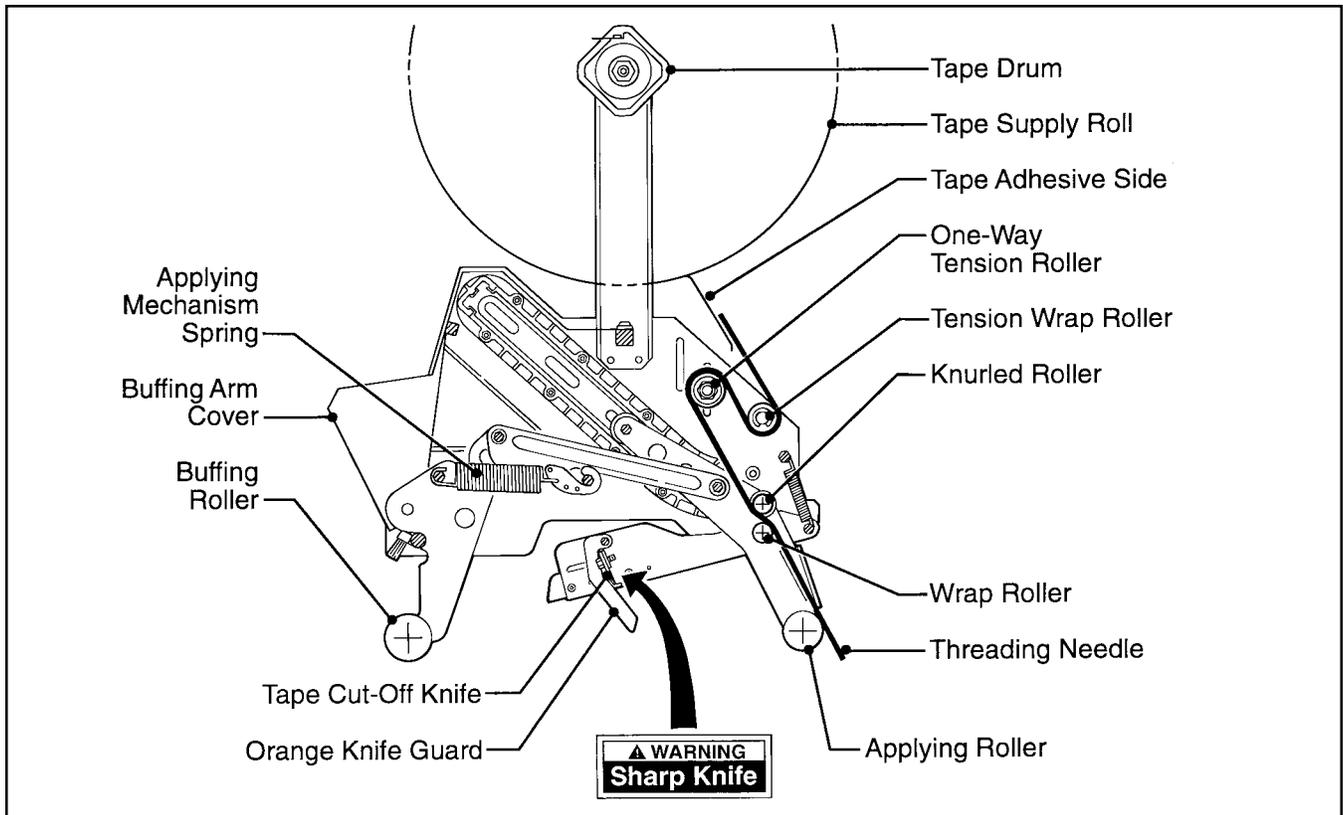

Figure 3-1 – Taping Head Components/Threading Diagram, Upper Head (Left Side View)
Before working with the taping heads or loading/threading tape, refer to Figures 3-1 and 3-2 (page 6) to identify the knife location. **Keep hands out of these areas except as necessary to service the taping heads or to load/thread tape.**
**WARNING – Taping Heads are equipped with an extremely sharp tape cut-off knife. The knife is located under the orange knife guard which has the "Warning – Sharp Knife" label. Before working with the taping heads or loading tape, refer to Figures 3-1 and 3-2 on page 6 and identify the knife location. Keep hands out of these areas except as necessary to service the taping heads.**
3. Taping heads are equipped with an extremely sharp cut-off knife. Before working with the taping heads or attempting to load/thread tape, refer to Figures 3-1 and 3-2 and identify the knife location. Keep hands out of these areas except as necessary to service the taping heads.
The applying mechanism spring, shown in Figures 3-1 and 3-2, controls applying and buffing roller pressure on the box and returns the mechanism to the reset position. The spring pressure is pre-set, as shown in Figure 5-3A for normal operation, but is adjustable.